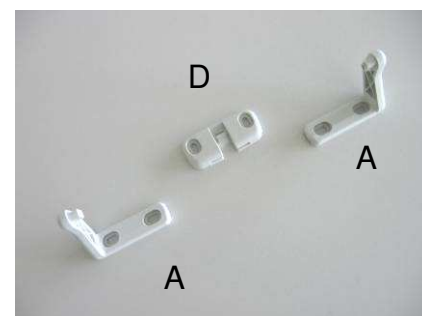

Figure 3
- B. Use brackets "A" and hinge "D" (Fig.3).